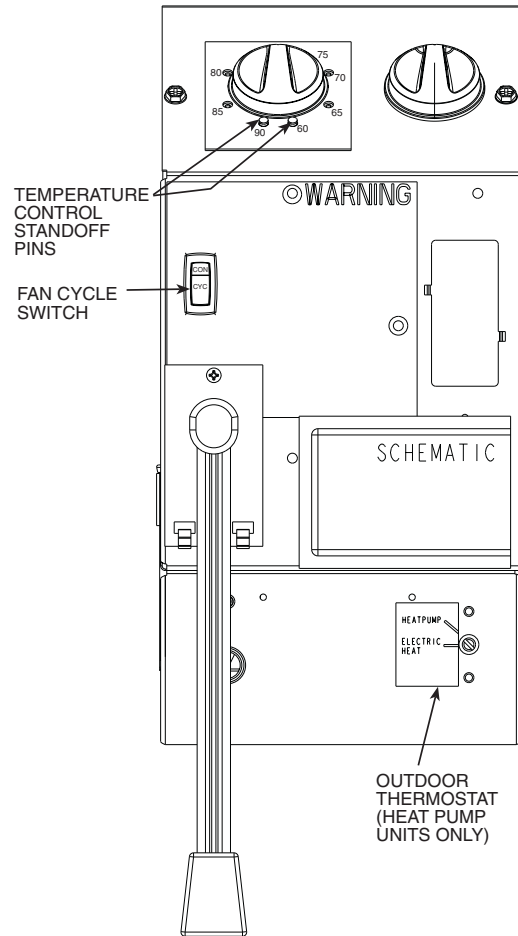

FIGURE 14 — 52C OPERATING CONTROLS
■ **SETTING TEMPERATURE LIMITS** — Setting temperature limits on the unit provides the user a restricted range of temperature control. See Figure 14. **NOTE:** This adjustment is optional and is not applicable to remote control units.
The following controls are located on the front of the chassis. To obtain access to operating controls, remove the unit front panel as shown on page 2. See Figure 14.
NOTE: 52C wall thermostat units have a blank plate. See Figure 14.